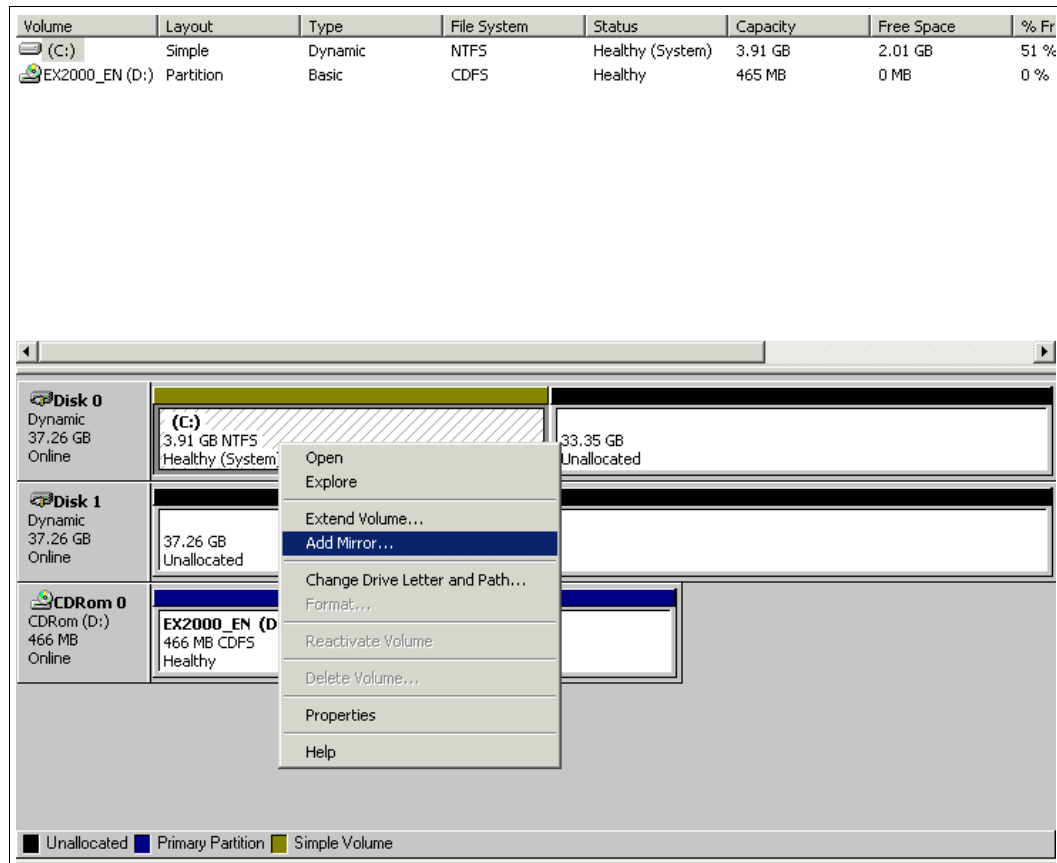

Figure 3-5 Adding the mirror
9. After the second reboot, repeat Step 1 to start Disk Management. You will see a window similar to Figure 3-5.